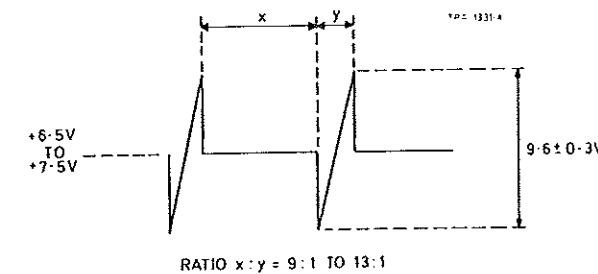

Fig. 5.16 Control oscillator waveform, 10:1 ratio
(9) Set the RATIO switch to 10:1 and check that the level and ratio of the waveform is as shown in Fig. 5.16.